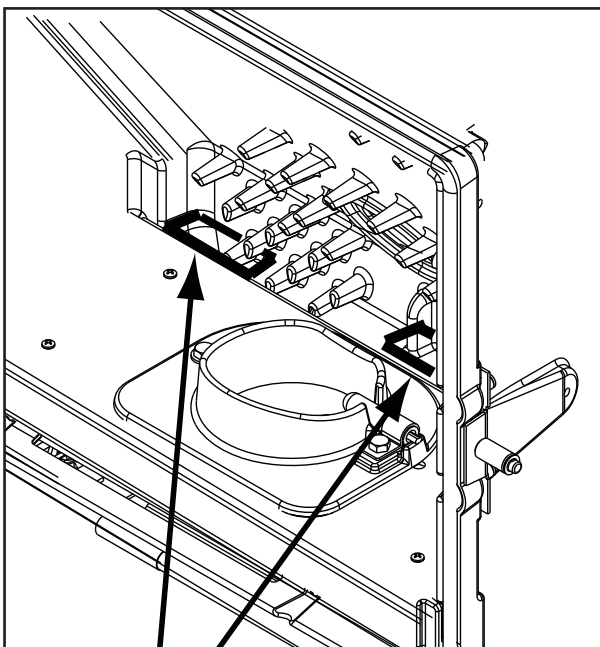

Figure 25.2
- d. Use the crevice tool to finish cleaning the heat exchanger fins. It is critical that the 2 exhaust exits at the back of the firebox floor (left and right) be thoroughly cleaned. **Figure 25.2.** There are several ways this can be done.